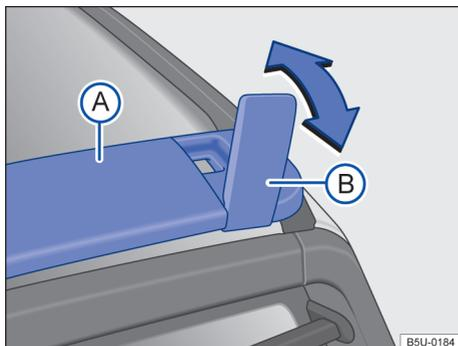

Fig. 117 On the roof: cross member and pivot support.
Use only the roof cross strut → Fig. 117 (A) and articulated supports (B) to support larger objects that do not fit the luggage compartment → ⚠️.